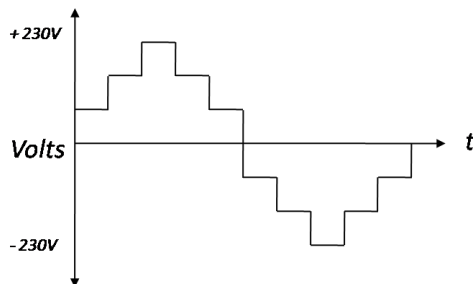

Fig. 1
- Also known as "*Quasi Sine Wave*", "*Stepped Sine Wave*" or "*Modified Sine Wave*". This is the simplest and crudest way of generating an AC output. Essentially all that happens is the DC is switched in several steps from 0V to +230V and back through 0V to -230V creating a wave form as represented in Fig 1.